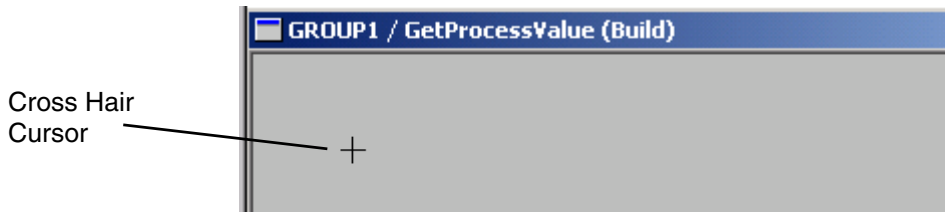

Figure 15. Crosshair Cursor
2. Move the cursor into the display area, Figure 15. When the cursor is over the display, it becomes a crosshair.